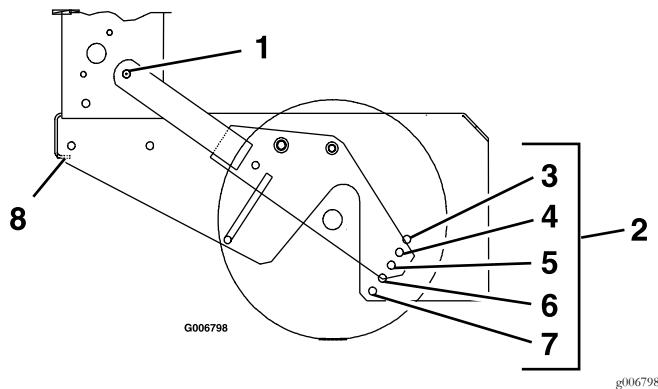
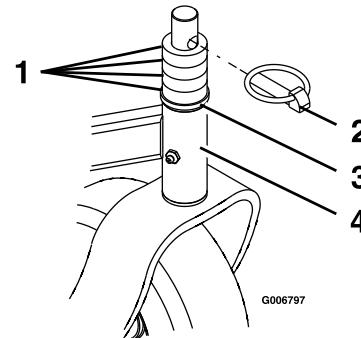

Figure 10
Figure 11
Desired cutting height range can be obtained by adjusting the rear axle and placing caster spacers above or below the caster arm (See Figure 10 and Figure 11 along with the Cutting Height Adjustment Chart). It may be necessary to readjust wheel drive and brake linkages.
5. Loosen but do not remove the two axle pivot bolts and the two axle adjustment bolts (see Figure 10).
6. Remove “quick pin” from one caster and remove caster from hub (see Figure 11).